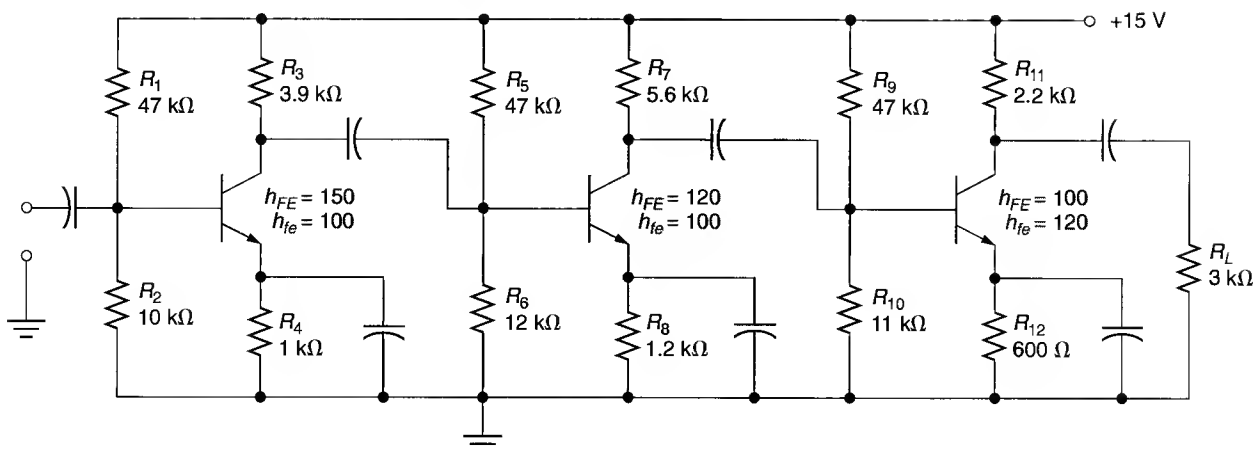

FIGURE 9.34
43. Determine the value of A_v for the third stage of the amplifier in Figure 9.34.
44. Determine the value of A_v for the second stage of the amplifier in Figure 9.34.
45. Determine the value of A_v for the first stage of the amplifier in Figure 9.34.
49. Determine the values of A_{vT} , A_{iT} , and A_{pT} for the amplifier in Figure 9.34.